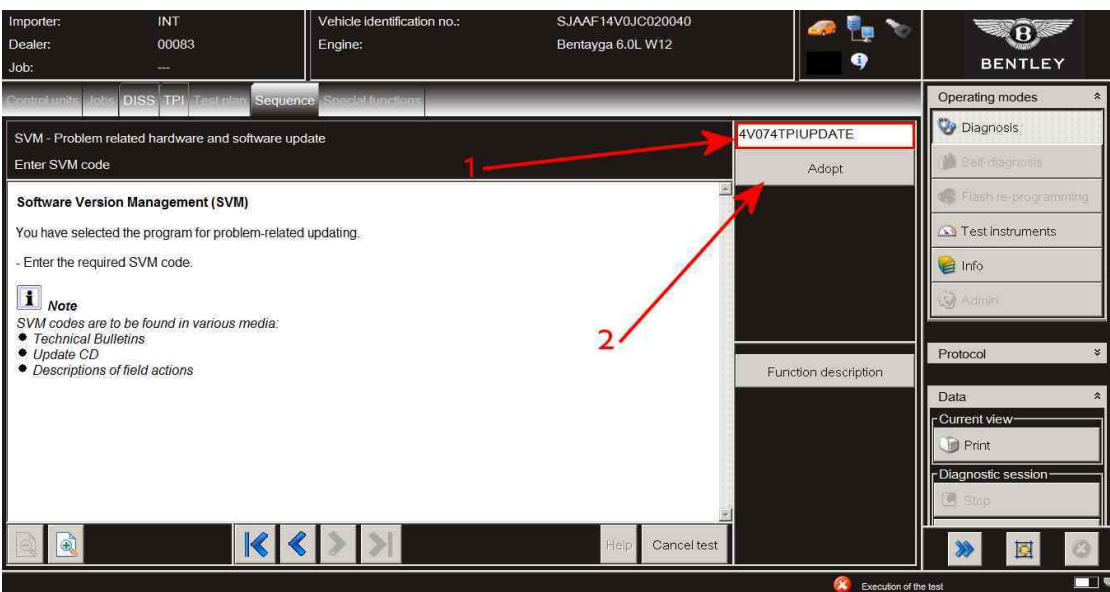

Figure 3
8. Referring to Figure 3 – At the SVM screen (1) enter the specific SVM code 4V074TPIUPDATE and then select Adopt (2)